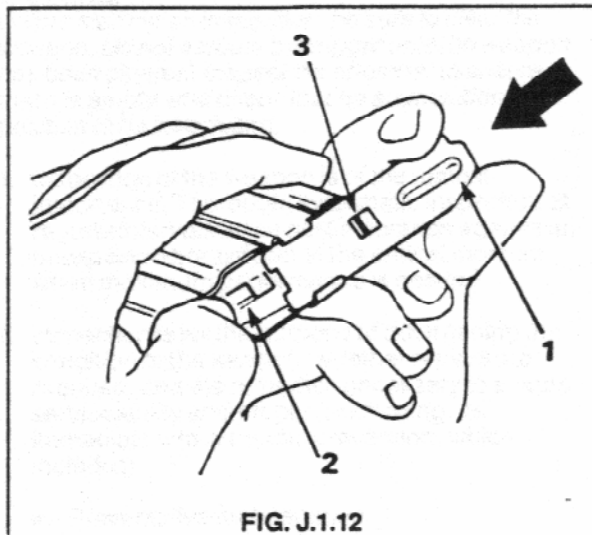

FIG. J.1.12
11. When assembling bottom plate to magazine ensure that the catch on the spring platform engages in the recess in the bottom plate. See Fig. J.1.12.